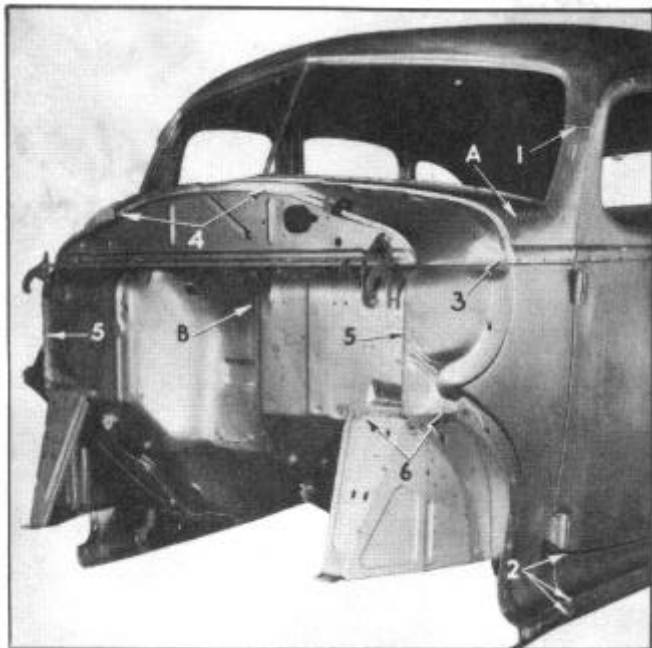
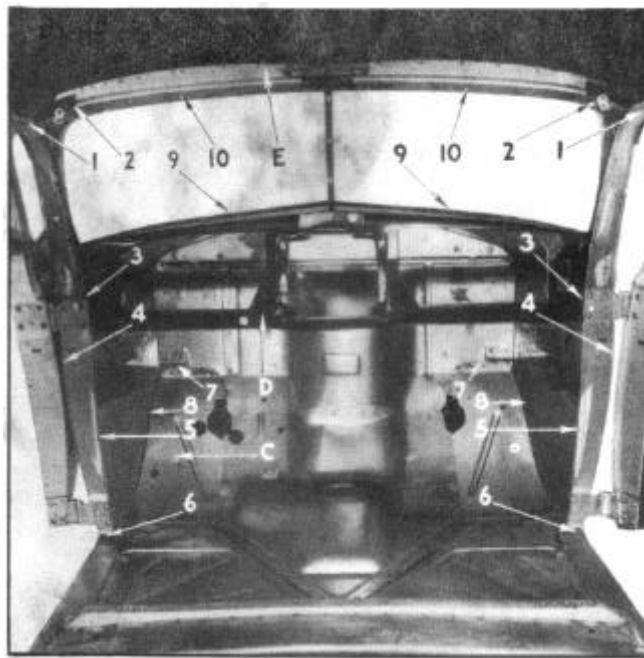
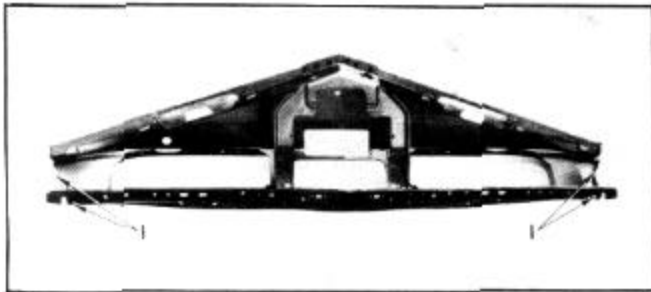

Figure 2--Front End Assembly Front View
Figure 3--Front End Assembly - Rear View
Figure 7--Instrument Panel - Bottom View
This assembly consists of the front end panel (A), Figure 2; dash panel (B); front pillar to dash bracket and toe board riser (C), Figure 3; instrument panel (D) and windshield header (E).
The front end panel is welded to the top panel at (1), Figure 2. These joints are soldered after welding and can be located by running the solder out of the joint with a torch.
The cowl side panel is welded to the underbody panel extension at (2), Figure 2, and to the front end panel at (3).
The dash panel is welded to the front end panel at (4), Figure 2; to the cowl side panels at (5); to the front pillar to dash bracket and toe board riser at (6).
The front pillars are welded to the body header at (1), Figure 3; to the windshield header at (2); to the instrument panel at (3); to the cowl side panel at (4); to the toe board riser at (5) and to the underbody panel at (6).
The front pillar to dash bracket and toe board riser is welded to the front pillar at (5), Figure 3, and to the dash panel at (7 and 8).
The instrument panel is welded to the front end panel at (9), Figure 3, and is welded and riveted to the front pillar reinforcement at (1), Figure 7.
The windshield header is welded to the front pillars at (2), Figure 3, and to the front end panel at (10).
The instrument panel is spot welded to the front end panel at (1), Figure 7, and welded and riveted to the front body pillar reinforcement at (2).